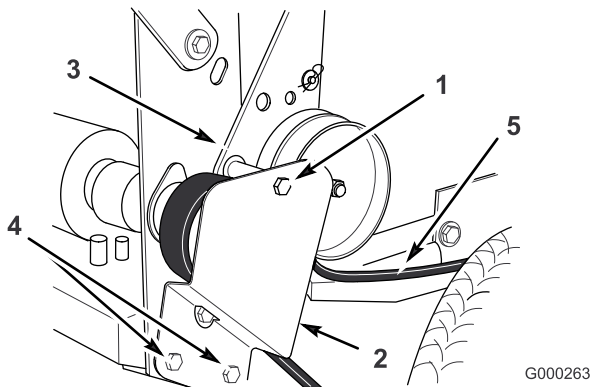

Figure 48
1. Remove the top bolt securing idler support and idler bracket to rear frame (Figure 48).
2. Loosen bottom 2 mounting screws enough to allow belt to pass between drive pulley and idler support (Figure 48).
5. Install the top bolt securing the idler support and idler bracket to the rear frame (Figure 48).
6. Tighten the bottom 2 mounting screws enough to allow the belt to pass between the drive pulley and the idler support (Figure 48).